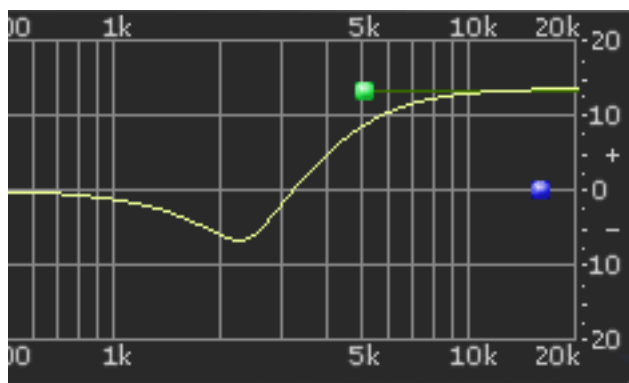
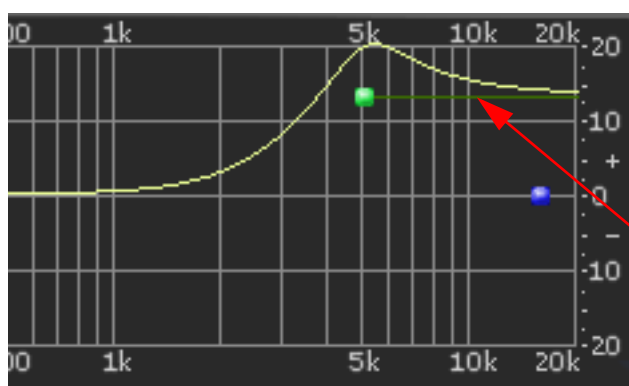
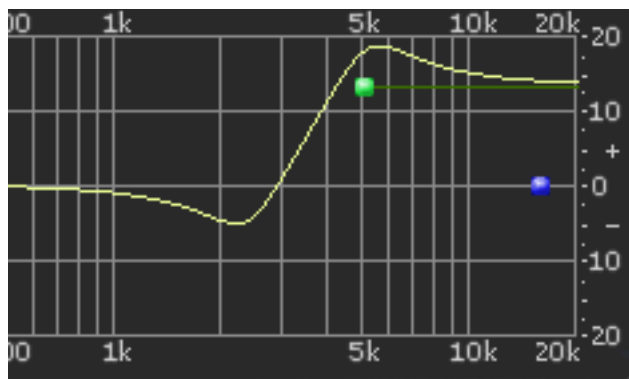

Figure 65. Shelf Type A
Figure 66. Shelf Type B
Figure 67. Shelf Type C
The button is green when shelving is enabled. Additionally, the control bar associated with the band has a horizontal shelf indicator line in the response curve display (see Figure 66 on page 146) when shelf mode is active.
The Shelf Type button places the resonant peak at (A) the edge of the stopband (Figure 65 on page 146), (B) the edge of the passband (Figure 66), or (C) at the edge of the stopband and the passband (Figure 67).